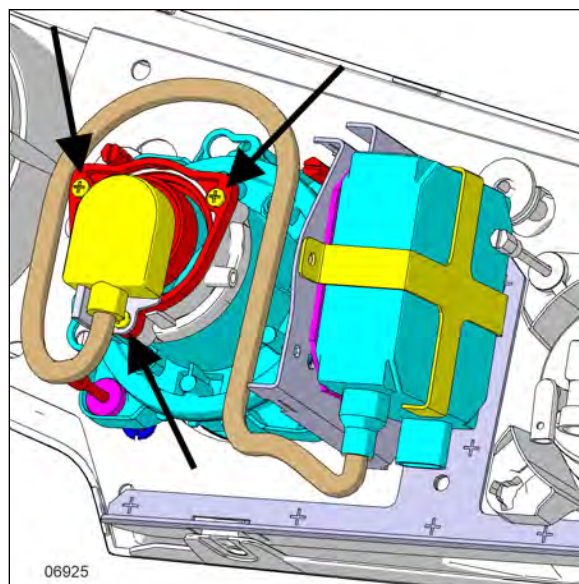

FIGURE 87: XENON HEADLAMP
3. Unscrew the three Phillips head screws (Figure 87) pull the retainer and bulb out.